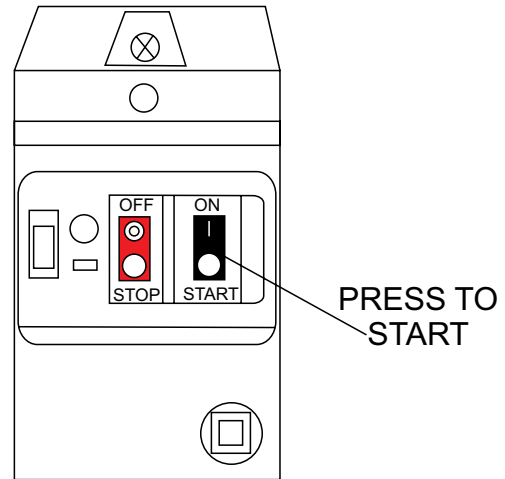

Figure 24. Electric Motor ON/OFF Switch (Start)
- To start the electric motor, press the black **ON/START** switch (Figure 24).